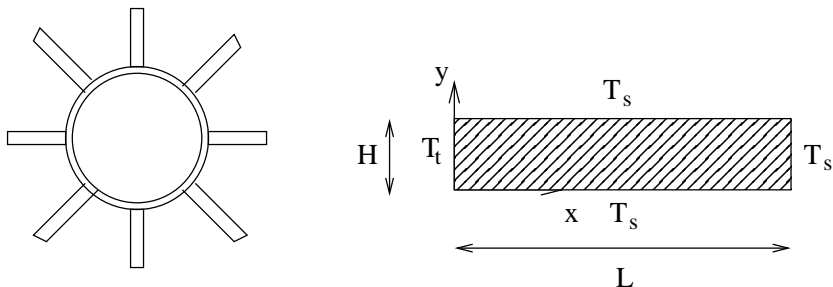

Figure 3: Fin of a shell-and-tube heat exchanger.
2. In shell-and-tube heat exchangers, the tube side often has fins in order to increase the conduction rate, as shown in figure 3. The fin can be modeled, in two dimensions, as a rectangular block of length  $L$ , height  $H$  and with thermal conductivity  $k$ . One surface (outer wall of the tube of the heat exchanger) is at the temperature  $T_t$ , which is the temperature of the tube side fluid. The other three surfaces are